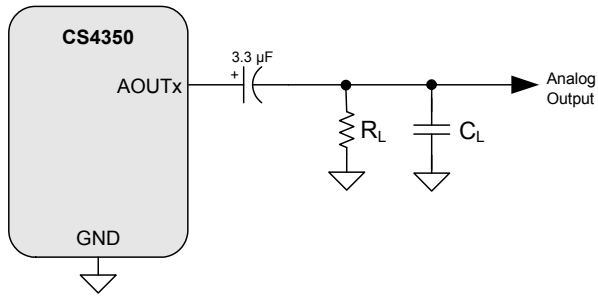
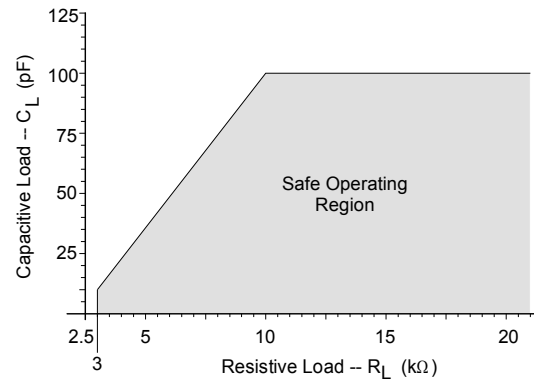

Figure 1. Equivalent Output Load
Figure 2. Maximum Loading
5. R_L and C_L represent the minimum resistance and maximum capacitance required for the CS4350's internal op-amp to remain stable. See Figure 1 and Figure 2 for more details.